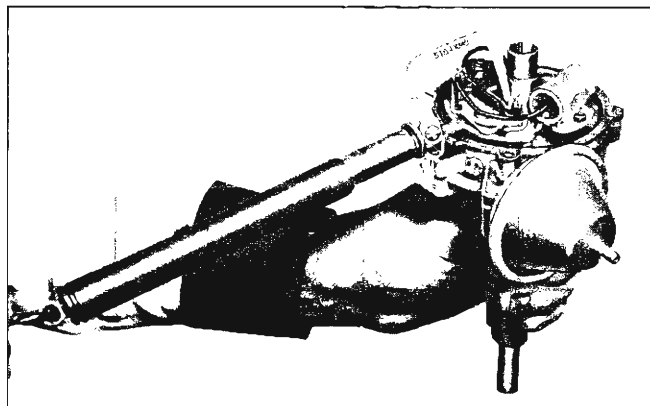

Fig. 5i—Checking Breaker Arm Spring Tension
8. Check and adjust points for proper alignment and breaker arm spring tension (fig. 5i). Use an aligning tool to bend stationary contact support if points need alignment.
**NOTE:** The contact point pressure must fall within specified limits. Weak tension will cause chatter resulting in arcing and burning of the points and an ignition miss at high speed, while excessive tension will cause undue wear of the contact points, cam and rubbing block. Breaker arm spring tension should be 19-23 ounces. The contact point pressure should be checked with a spring gauge. The scale should be hooked to the breaker lever and the pull exerted at 90 degrees to the breaker lever as shown in Figure 5i. The reading should be taken just as the points separate. The pressure can be adjusted by bending the breaker lever spring. If the pressure is excessive, it can be decreased by pinching the spring carefully. To increase pressure, the lever must be removed from the distributor so the spring can be bent away from the lever. Avoid excessive spring distortion.